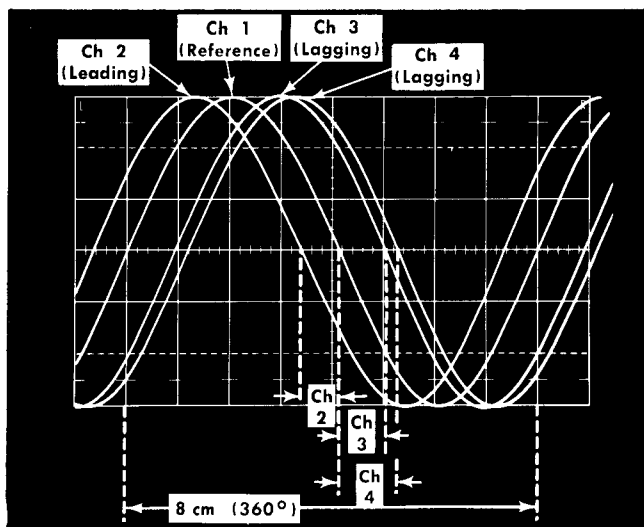
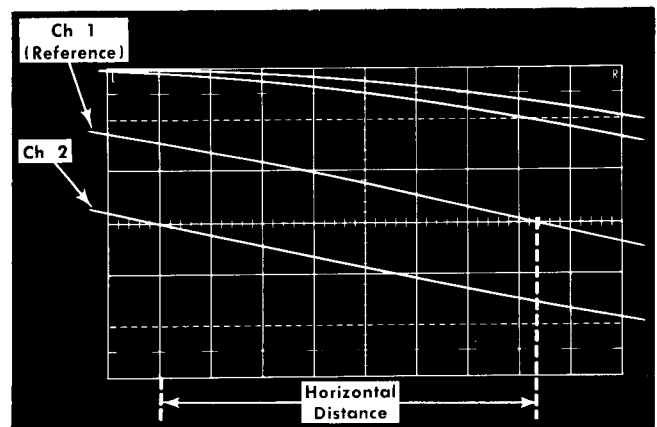

Fig. 3-5. Measuring phase difference.
Fig. 3-6. Accurate phase-difference measurement with increased sweep rate.
9. Set the oscilloscope Triggering Source switch to Plug In. Turn the Variable Time/CM control until 1 cycle of the reference signal (Channel 1) occupies exactly 9 cm horizontally (see Fig. 3-5). Each cm of the graticule represents 45° of the cycle ($360^\circ \div 8 \text{ cm} = 45^\circ/\text{cm}$). This is the phase factor.
10. Measure the horizontal difference between corresponding points on the waveforms; that is, between the Channel 1 waveform and each of the other waveforms as shown in Fig. 3-5. Note whether the waveform to be compared is leading or lagging. To make each phase difference measurement easier, the non-applicable waveforms can be switched off by setting the AC-GND-DC switches to GND until it is necessary to display them.
Example. Assume a horizontal difference of 0.73 cm between Channel 1 and 2 waveforms with a phase factor of 45° per cm as shown in Fig. 3-5.
Example. If the sweep rate were increased 10 times with the Sweep Magnifier, the adjusted phase factor would be $45^\circ \div 10 = 4.5^\circ/\text{cm}$. Fig. 3-6 shows the Channel 1 and 2 signal as was used in Fig. 3-5, but with the Sweep Magnifier switch set to $\times 10$. With a horizontal difference of 7.3 cm, the phase difference is: